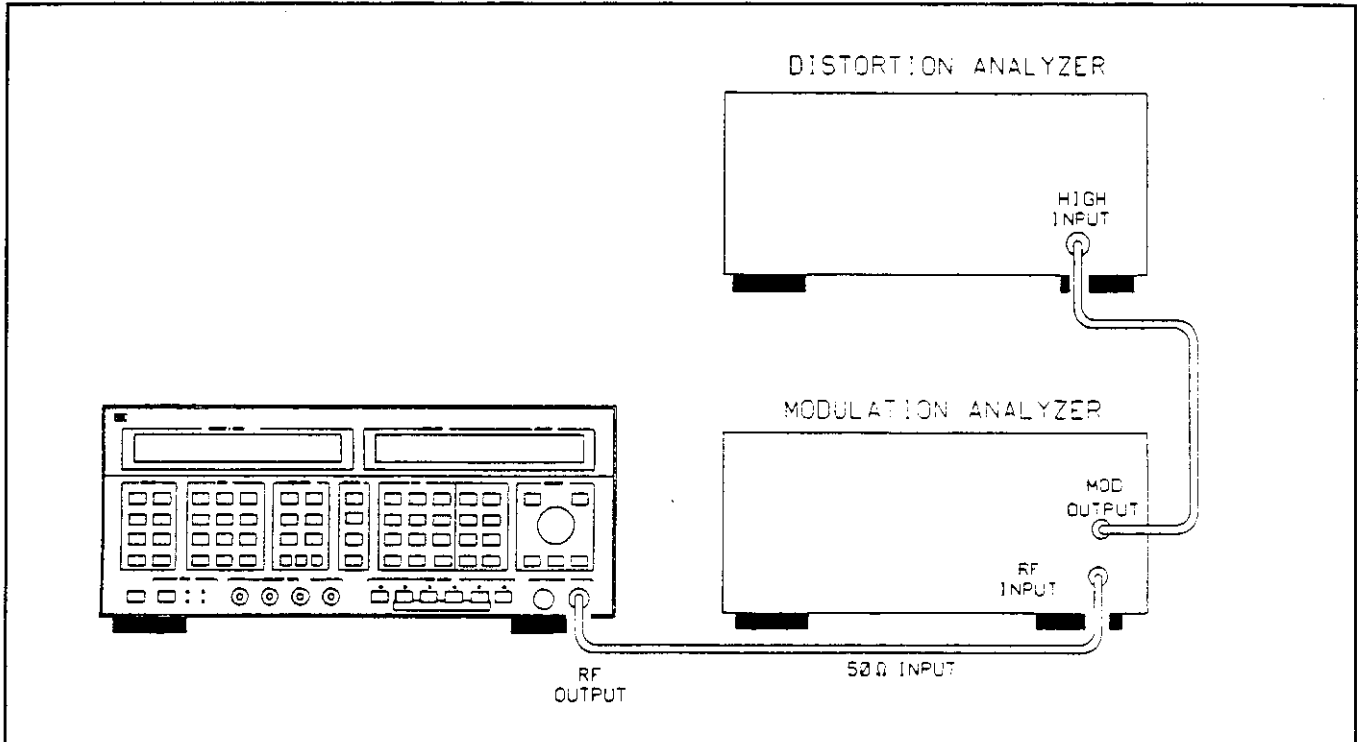

Figure 8-17. AM Test Setup 1
1. Connect the equipment as shown in figure 8-17.